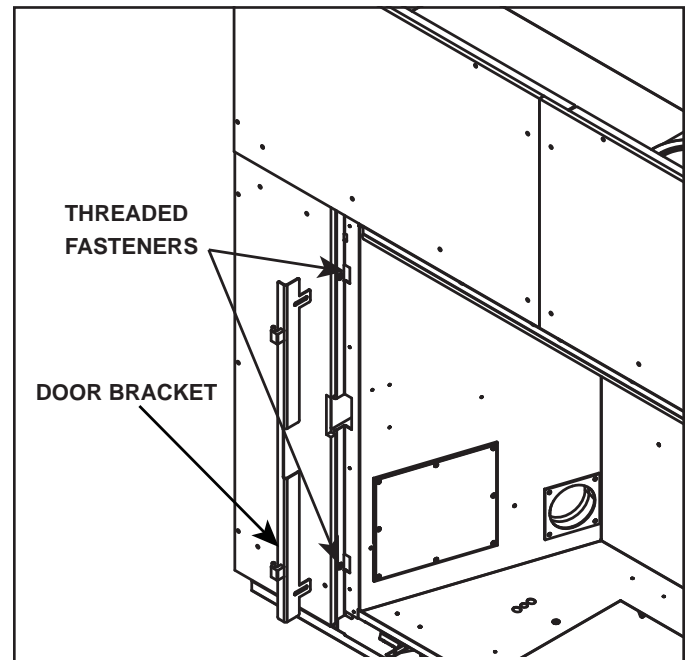

Figure 2. Installing Door Bracket
3. Install left and right door brackets into the left and right surround of the appliance. See Figure 2. Use the four Phillips screws included with the door instruction bag assembly.